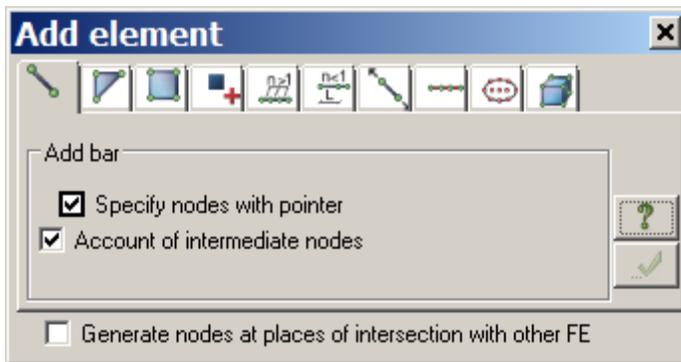

Figure 10.6 Add element dialog box
- ⇒ The **Add element** dialog box is presented with the **Add bar** tab open (see Fig.10.6).